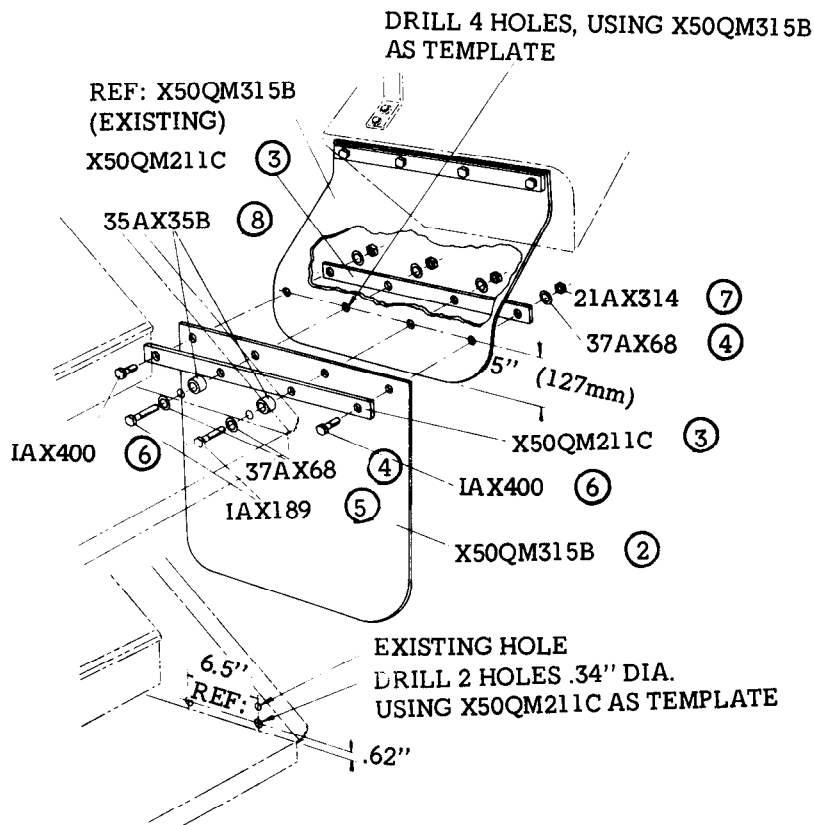

FIG 1 - FITTING DETAILS FOR ADDITIONAL MUDFLAP
- Using mudflaps, item 2 from Table 1, as templates, drill the existing mudflaps to suit.
- Using the existing holes in the front face of the steps as reference points (see Fig 1), drill two holes 0.34 inch diameter, using clamping bars, item 3 from Table 1, as templates.
- Assemble the new mudflaps, item 2 from Table 1, to the old ones, using clamping bars, item 3 from Table 1, and two bolts, two flat washers and two locknuts, items 6, 4 and 7 from Table 1, ensuring that the bolts are fitted into the outer pairs of holes.
- Using the spacers, item 8 from Table 1, between the clamping bars and the step (see Fig 1), secure the mudflap to the step using two bolts, four flat washers and two locknuts, items 5, 4 and 7 from Table 1.